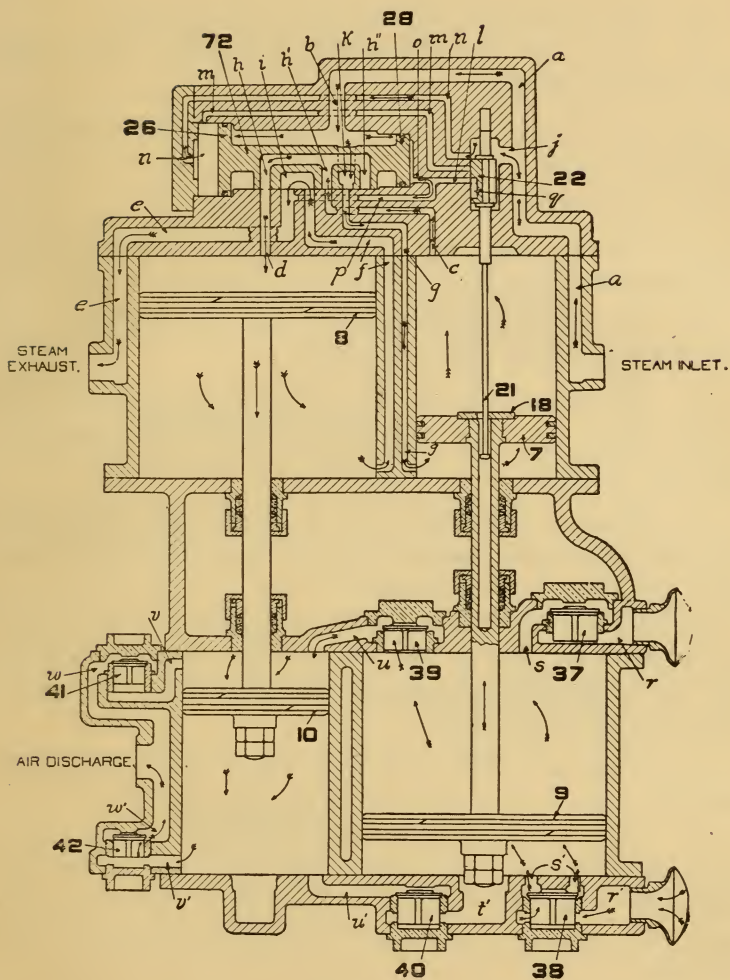

Fig. 130.
Q. What are Figs. 130 and 131, and what do they show?
A. Referring to Fig. 130, steam from the boiler enters the pump at the point marked "steam inlet," flows through passage *a* to the top head and fills the